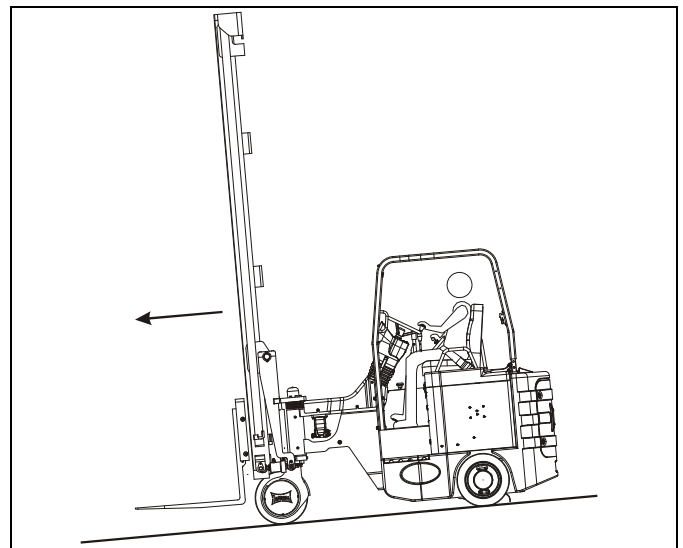

Figure 4-18: Traveling Down an Incline
- If you are not carrying a load, travel with the forks facing uphill when you are going up the incline and face the forks downhill when you are traveling down an incline. See Figure 4-18.